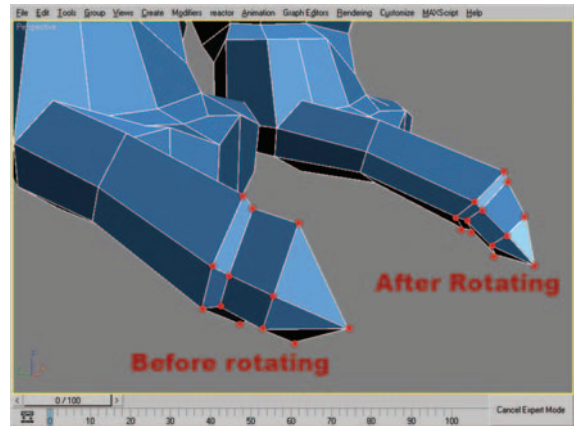

Figure 9.67 Vertex selection before and after rotating and moving.
29. Select the vertices shown in Figure 9.67 (left) and use the Rotate tool and the Move tool to create a curve to the finger as seen in Figure 9.67 (right).